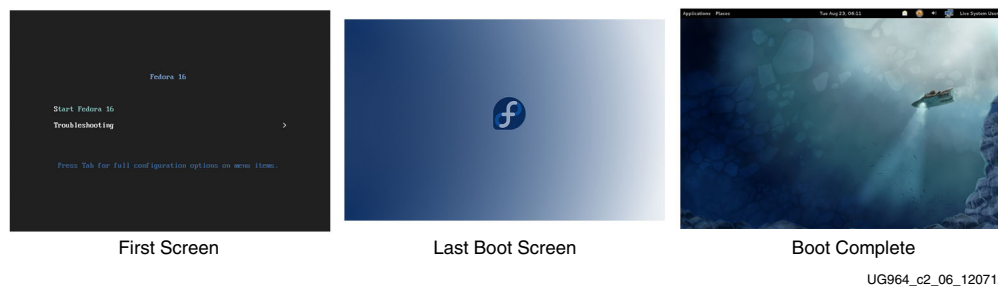

Figure 2-6: Fedora 16 Live DVD Boot Sequence
3. The images in Figure 2-6 are seen on the monitor during start-up.